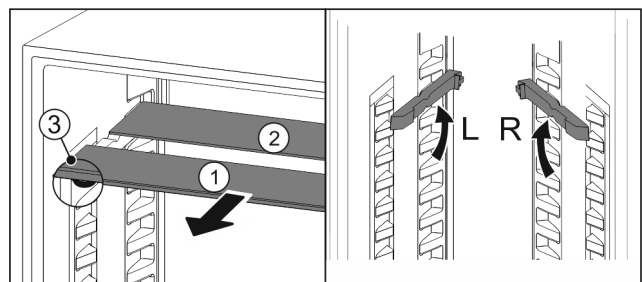

Fig. 50
- ▶ Pull the glass panels out Fig. 50 (1) from the front, one at a time.
- ▷ The glass panel Fig. 50 (1) and trim strip are at the front.
- ▷ The stops Fig. 50 (3) point down.